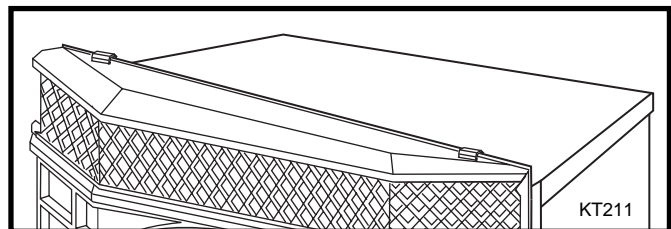

Fig. 52 Engage the slots in the upper grille top louvre with the upper tabs of the hanging bracket.
5. Install the upper grille by engaging the oblong holes with the upper tabs of the hanging brackets, as shown in Figure 52.
6. Install top louvre by engaging the oblong holes with the upper tabs of the hanging brackets, as shown in Figure 52.